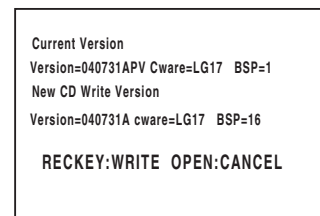

Fig. 3-1-6
- 6) The main firmware version will then appear on the screen. Pressing the REC ● button on this DVD recorder will start writing (Fig. 3-1-6). To cancel writing, press the OPEN/CLOSE ▲ button and remove the disc.